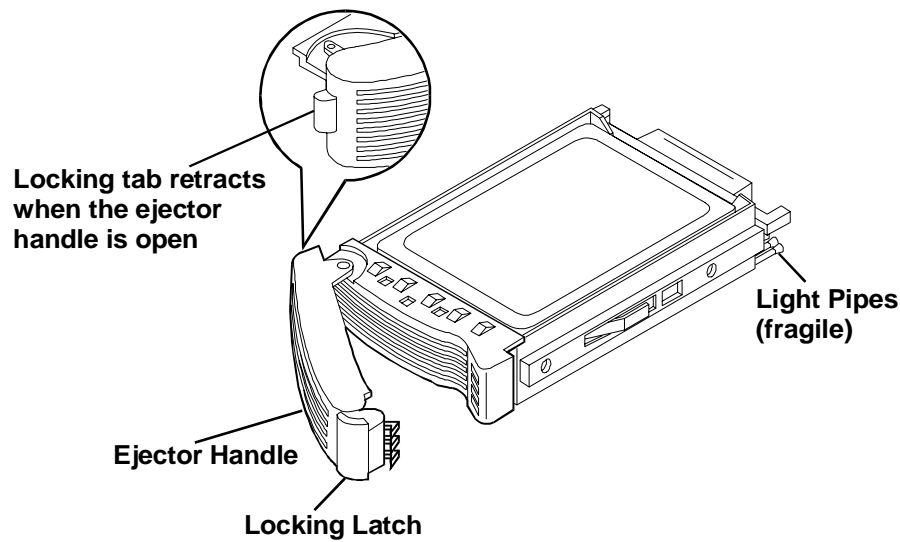

Figure 6-4. Readying Drive For Installation
3. On the drive, press the locking latch in and pull the ejector handle out as far as it can go, as shown in Figure 6-4.